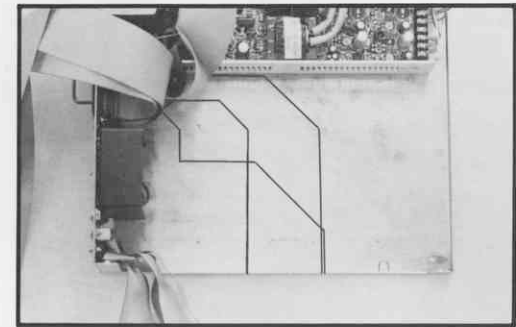

Figure 40 Completed Tracings A, B, C (1/4" Tape Controller System)
4.18 When you've completed the tracings, the bottom of the chassis should look like Figure 40 or 41.